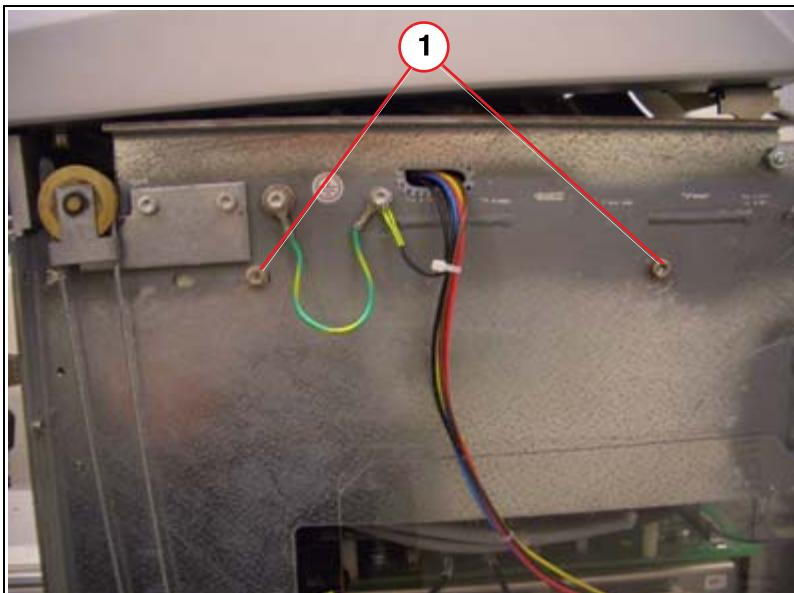

Fig. 70: Mounting screws
- Remove the 4 attachment screws of the cable winch housing (2 per side) (see (1/Fig. 70 / p. 76)).